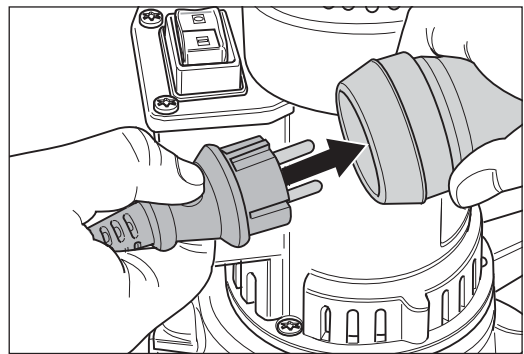

Fig. 5 Connect the motor cable to the extension cable.
- 1 Insert the plug of the motor cable in the coupler of the extension cable (Fig. 5).